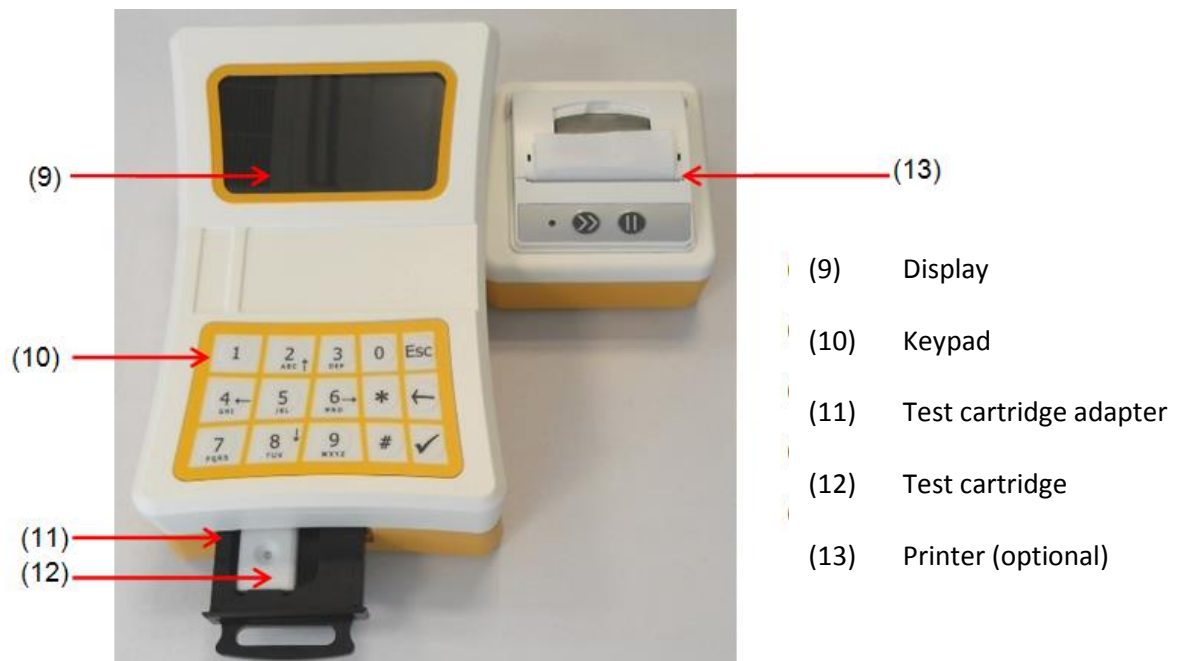

Figure 2: Front view of the device with a printer attached and the test cartridge adapter not inserted
The well for the blood sample (30) in the above illustrated cartridge can be covered by a transparent slide cover (29) after the application in order to protect the environment against possible infections emanating from the blood sample. Most test cartridges, as for instance visible in **Figure 2**, do not have such a slide cover.